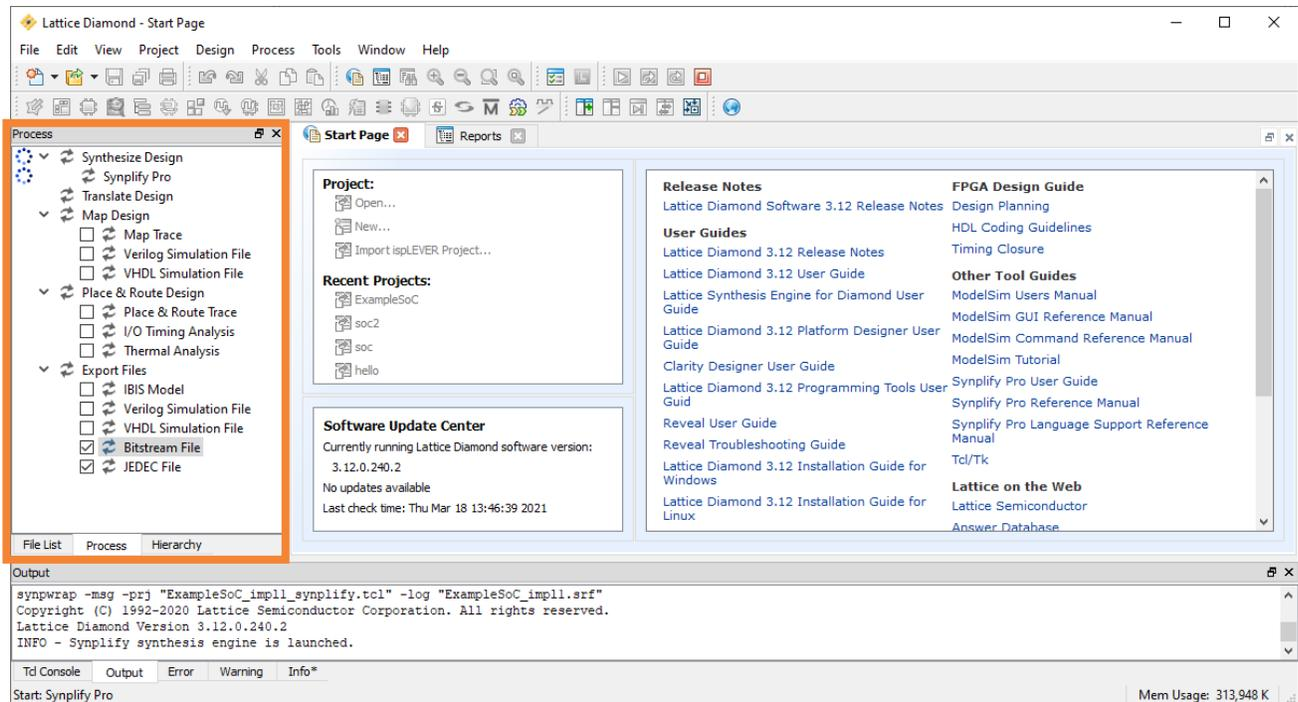

Figure 4.6. Generate Programming File
- Switch to **Process** view of the Diamond project and make sure **Bitstream File** or **JEDEC File** is checked in the **Export Files** section (Figure 4.6).